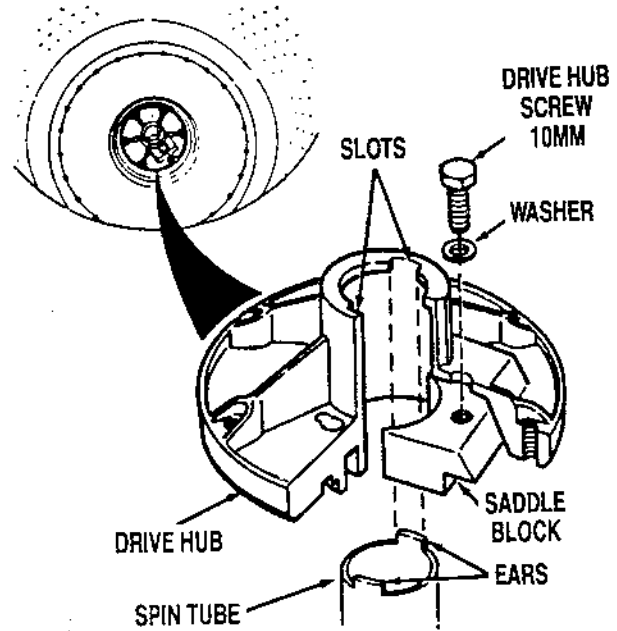

Fig. 22
3. Install a hose clamp on the corrugated hose at the bottom of the vacuum break reservoir. Position tangs as shown in figure 22.